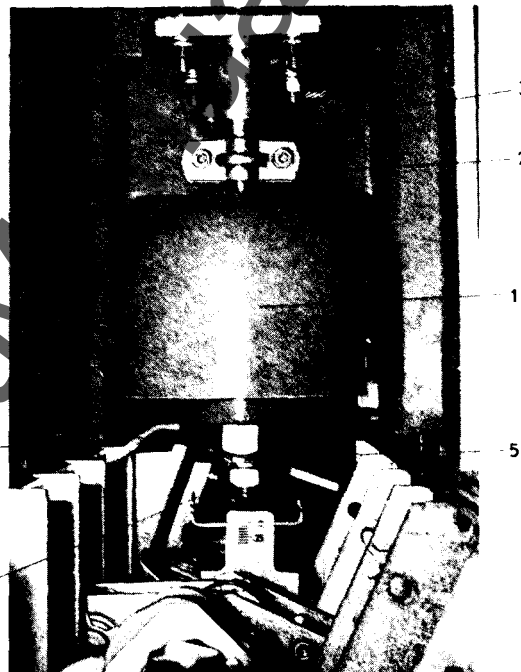

Fig. A2 Operating Rod — Viewed from Rear
To remove the coupling clamp, (2) Fig. A2, which connects the operating rod to the vacuum interrupter, close the breaker and remove the two screws which hold the two halves of the coupling clamp together. When reinstalling, torque the two clamp screws to 10 to 12 foot pounds.
1. Close the breaker and remove the coupling clamp, (2) Fig. A2. Open the breaker and remove the four bolts holding the pole assembly to the mechanism and remove the old pole assembly.
3. Close the breaker using the Slow Closing Operation as described in paragraph 5.2. Perform the closing operation slowly while guiding the tip of the operating rod into the base of the movable contact rod, (3) Fig. A2, on the vacuum interrupter. After the breaker is fully closed install the coupling clamp.
To remove the operating rod, (1) Fig. A2, close the breaker, remove the coupling clamp and trip (open) the breaker. The operating rod is then removed by loosening the locknut, (6) Fig. A2, and unscrewing it from the wipe spring assembly.
To reinstall, screw the operating rod on the wipe spring assembly and adjust the distance between the top of the operating rod and the bottom of the movable contact rod, (3) Fig. A2, to the gap required for the breaker as shown in the following chart:
Lock the operating rod in its initially adjusted position by tightening the locknut, (6) Fig. A2, against it. Slow close the breaker as described in paragraph 5.2. Guide the tip of the operating rod into the recess in the bottom of the vacuum interrupter movable contact while the breaker is being slow closed.